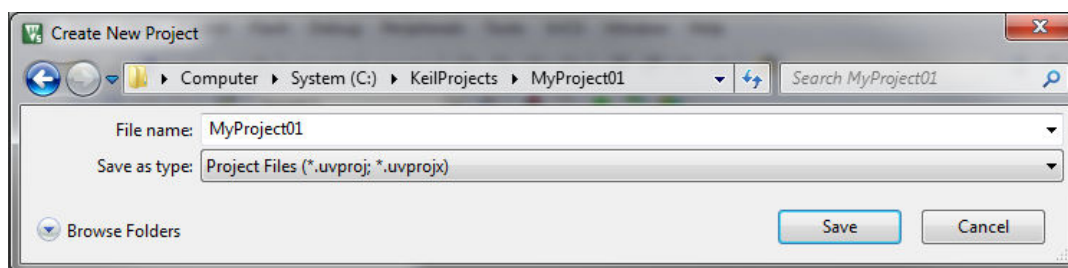

Figure 1-17. Create New Project dialog
3. Navigate to the folder where you want to create the project, for example C:\KeilProjects\MyProject01. Type the name of the project, for example MyProject01. Click Save. See Figure 1-17.